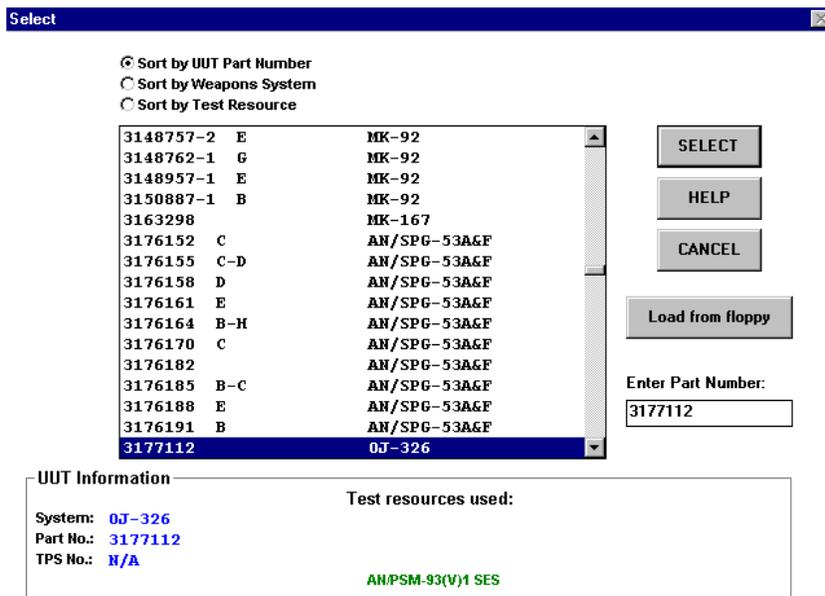
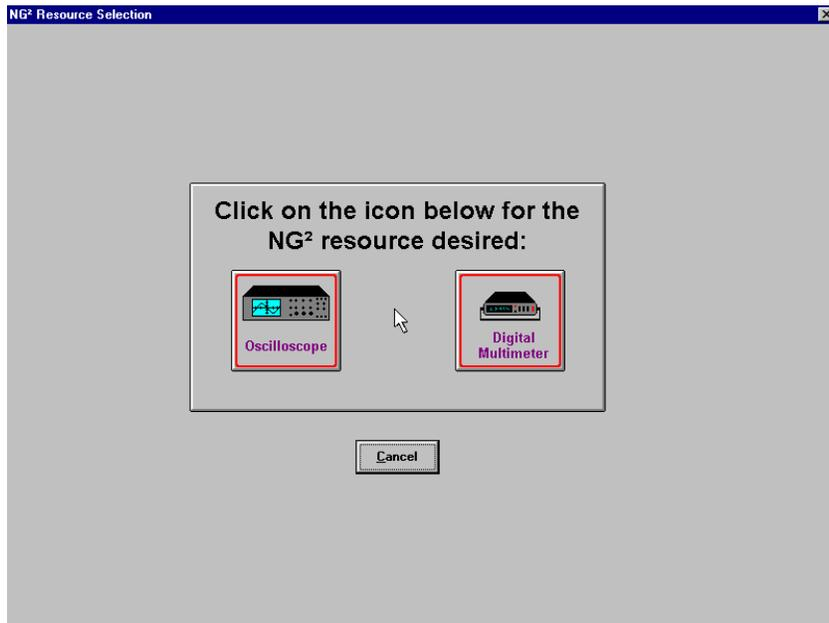

Figure 3. Resource Selection Screen
Figure 12. NG² Instruments Stand-Alone Selection Screen
EXAMPLE: If the operator selects UUT Part Number 31771122, which is a UUT from the OJ-326, he or she will see the information for this UUT displayed in the UUT Information Box, and the AN/PSM-93 will be listed as the available Test Resource used (see FIGURE 3 below). If the operator desired to use the NG² oscilloscope as a stand-alone instrument to evaluate this UUT, rather than the existing Signal Evaluation Set (SES), he or she would go to the TEST RESOURCE folder and click on the NG² icon to use the scope in a stand-alone mode (see FIGURE 12).
2.2.3 Wait for the UUT Select Screen to appear. The Unit Under Test (UUT) list can be sorted by UUT Part Number, by Weapons System, or by Test Resource by clicking the appropriate choice near the top of the window. Select the pertinent item to test by using the scroll bar on the right side of the listing, or by typing the appropriate Part Number, Weapons System, or Test Resource information directly into the window area provided. Once the Part Number to test is found, highlight by single clicking on it. With the arrow, single click the SELECT button in the upper right corner. Click on help for general AN/PSM-93(V) information. Click on CANCEL to go back to the AN/PSM-93(V) opening screen. Future Test Resource updates, or user developed tests may reside on floppy disks, and the user can then use the LOAD FROM FLOPPY option to load them. (See Figure 3, Resource Selection Screen, below).
3.8 Using the NG² Test Instruments in Stand-Alone Mode. To utilize the OS-301(P)/PSM-93(V) Oscilloscope and the ME-569(P)/PSM-93(V) Digital Multimeter in Stand-Alone mode, that is as independently functioning instruments not utilized in a AN/PSM-93 SES, go to the Test Resource folder and click on the Next Generation GPETE (NG²) icon. The system will present a screen allowing the operator to choose to use either the Oscilloscope, or the Multimeter for use as General Purpose Electronic Test Equipment (GPETE). Refer to the manufacturer's technical documentation for these instruments for guidance on their use in Stand-Alone mode. (See Figure 12, NG² Instruments Stand-Alone Selection, below).